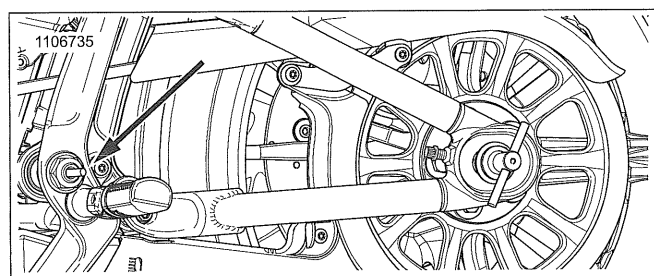

Figure 3-35. Rear Fork Pivot Shaft Alignment Rod
1. See Figure 3-35. Place a steel rod through rear fork pivot shaft.